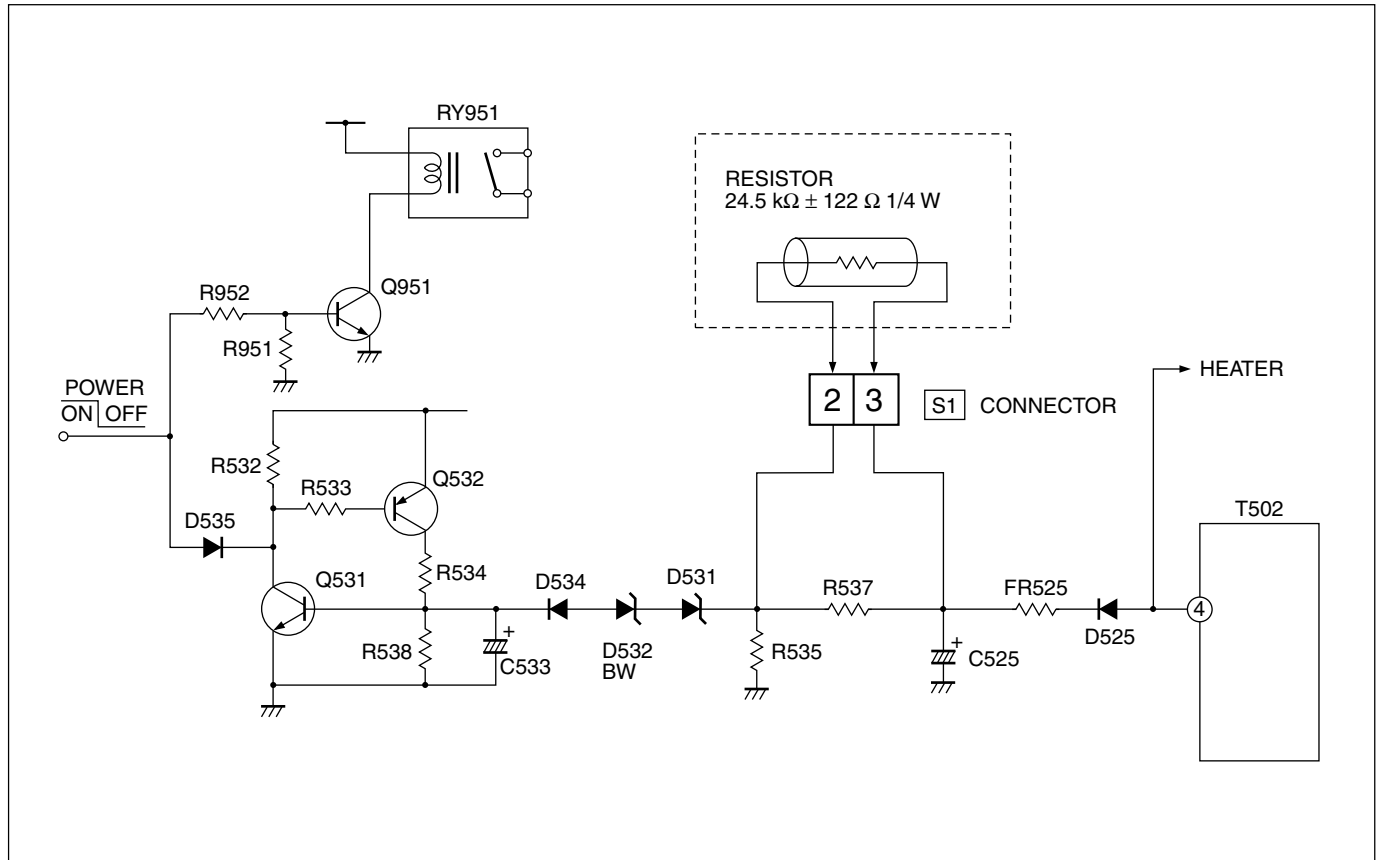

Fig. 1
After repairing the high voltage hold down circuit shown in Fig. 1.
- (1) Turn the POWER SW ON.
- (2) As shown in Fig. 1, set the resistor (between **S1** connector **2** & **3**).
- (3) Make sure that the screen picture disappears.
- (4) Temporarily unplug the power cord.
- (5) Remove the resistor (between **S1** connector **2** & **3**).
- (6) Again plug the power cord, make sure that the normal picture is displayed on the screen.